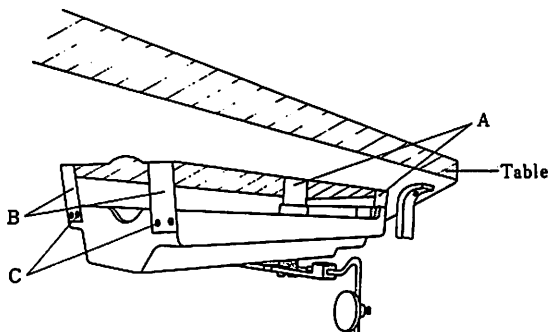
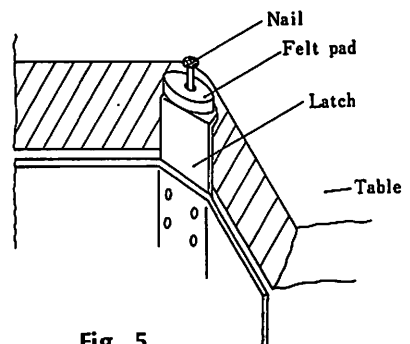

Fig. 4
Fig. 5
To assemble oil pan, remove latches (B.C., Fig. 4) and four screws (1, 2 Fig. 4), hang both ends of latches (A) to cut-outs of table and tighten latches B and C by said four screws. Then, place felt pads on cut-outs at four corners and nail them to cut-outs (Fig. 5) respectively.